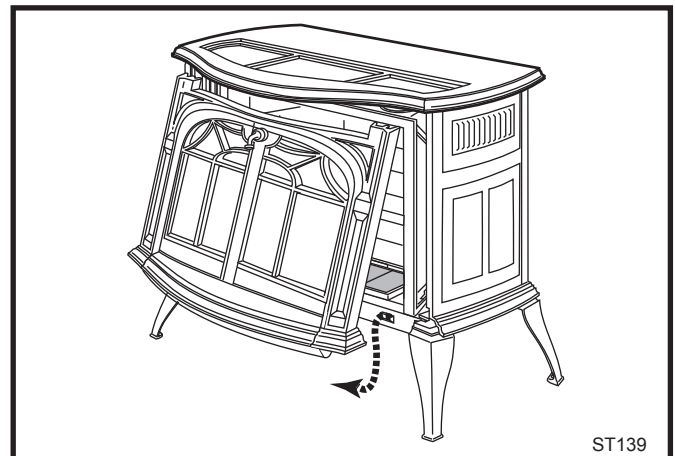

Fig. 5 Remove the front plate.
2. Remove the Front Plate. Grasp one side and the bottom, and lift the front plate as a unit (the control door attaches to the stove front). Swing the bottom edge out and away from the stove body, (Fig. 5)